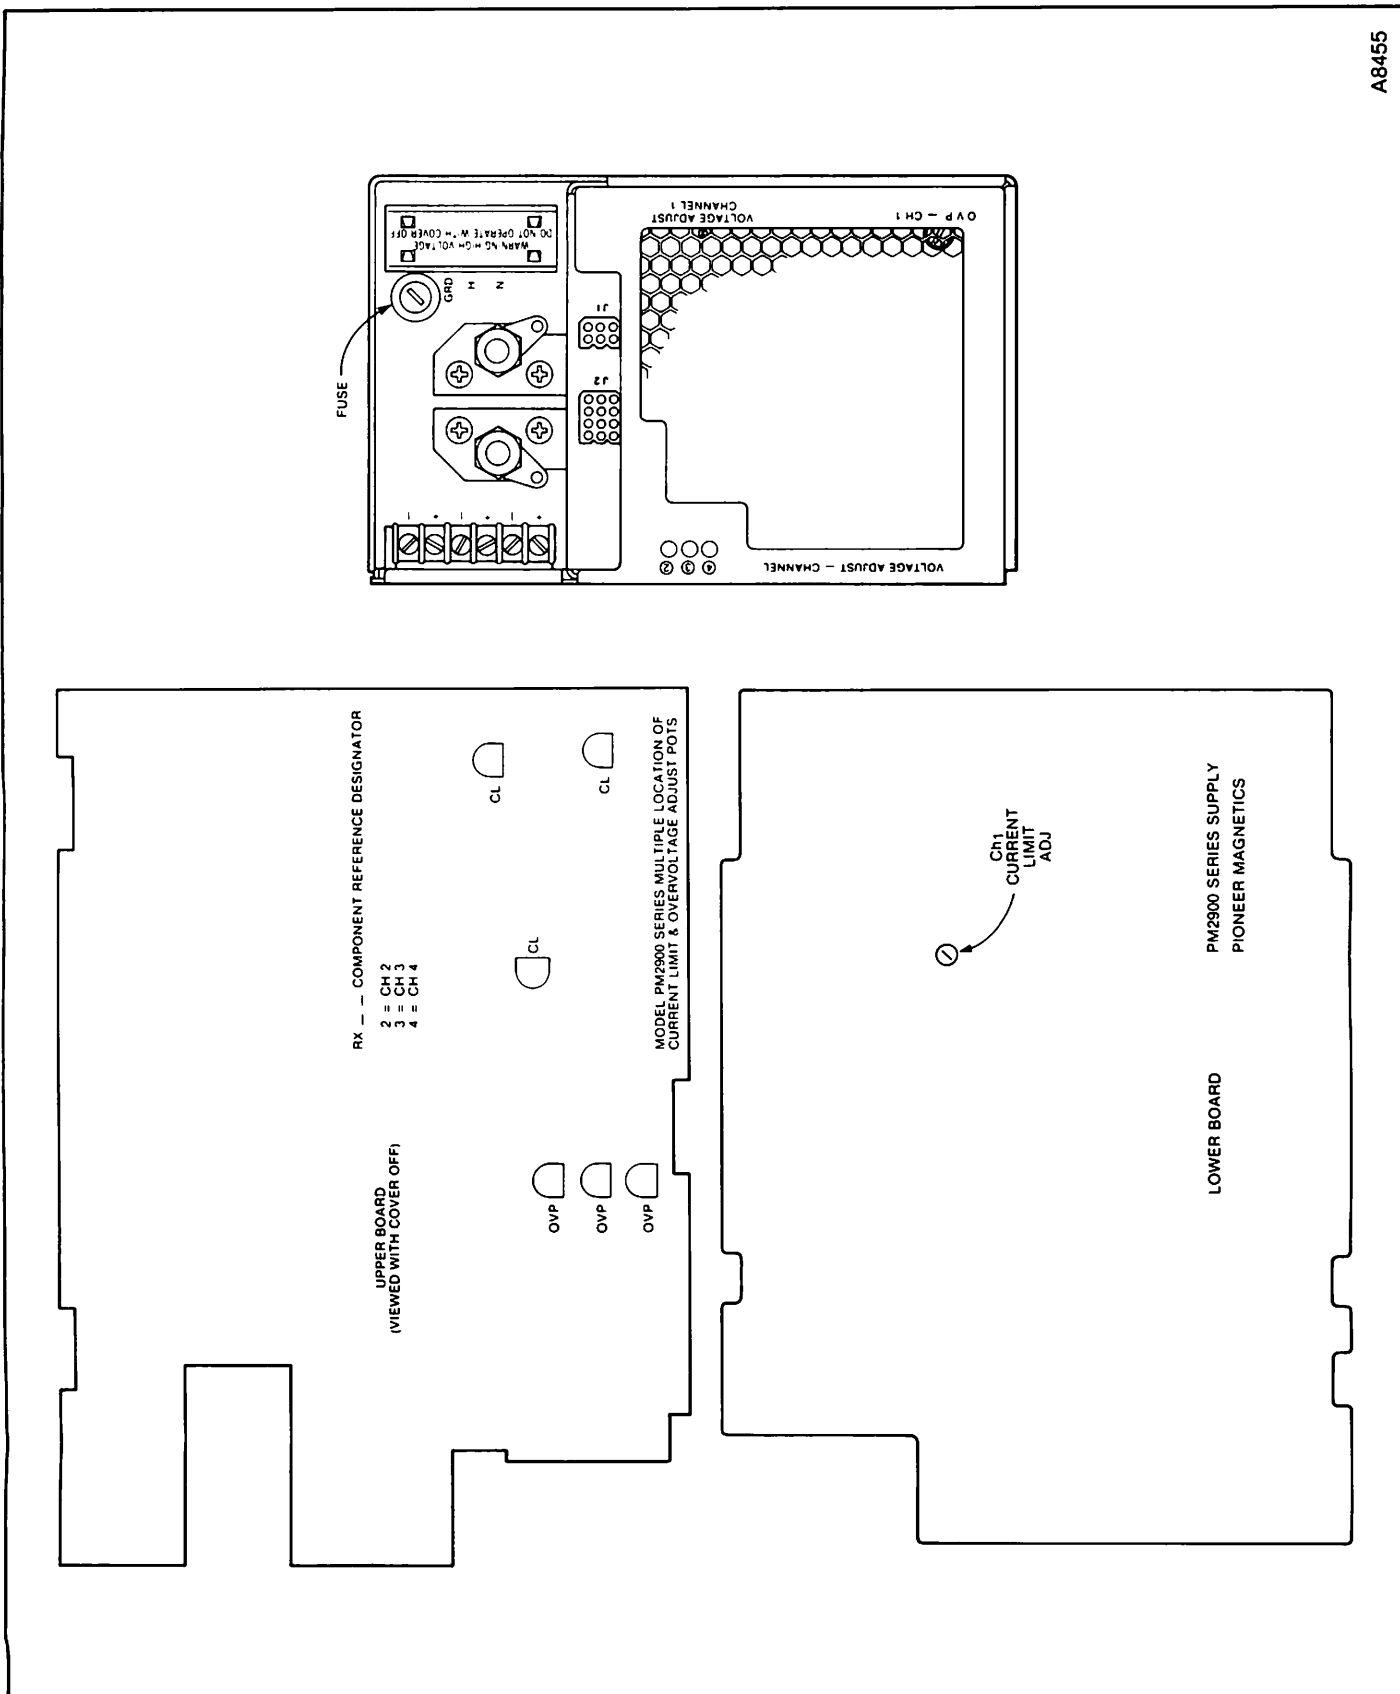

FIGURE 1 — Adjustment Location on PMI Power Supplies (P/N 1947319-□).
Ascertain that a 50 watt or specified minimum load is connected to the primary channel. If only a minor voltage adjustment is necessary, rotate VOLTAGE ADJUSTMENT pots to proper level (see front panel views in Figures 1 and 2). Do not go through complete adjustment procedure.
3. Turn on power to unit. If voltage appears, set the correct level by turning VOLTAGE ADJUST pot clockwise. If voltage level drops as pot is rotated clockwise, rotate OVERVOLTAGE pot (See Fig. 1 and 2) fully counter-clockwise temporarily. Set VOLTAGE ADJUST pot to specified voltage. Turn off power.
1. Remove screw for access to CURRENT LIMIT adjustment pot. (See Fig. 1 and 2).